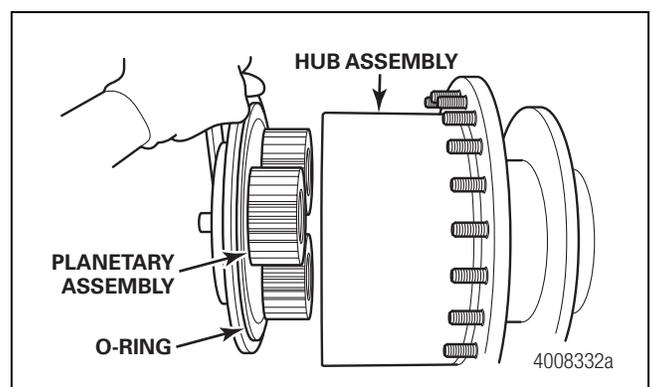

Figure 4.2
2. Use a suitable lifting device to support the planetary assembly. Remove the mounting bolts. Remove the planetary assembly from the hub. Figure 4.2.